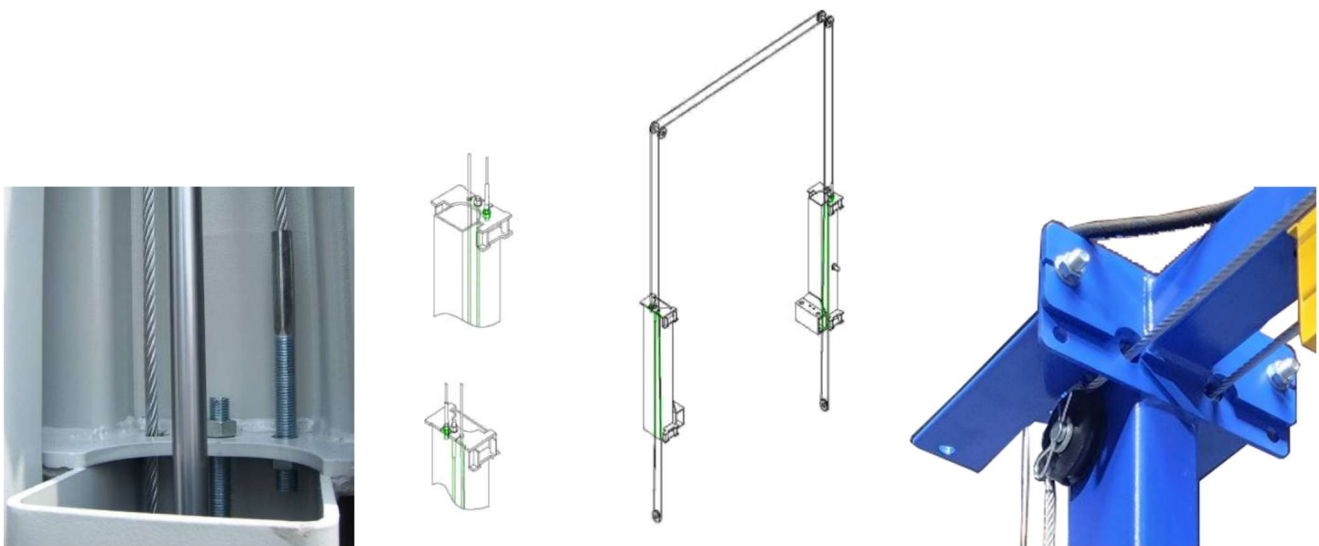

Fig. 13
16. Install Ext. Ht. Equalization Cables (9) as shown below in **Fig. 13**. (For additional details, see the *Equalization Cables Routing Instructions* noted in the *TP11KC-DX Installation Manual*.)